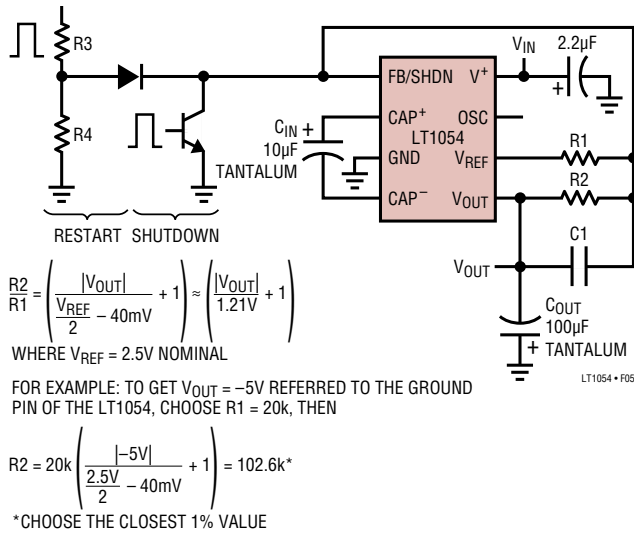

Figure 5.
**FB/SHDN (Pin 1):** Feedback/Shutdown Pin. This pin has two functions. Pulling Pin 1 below the shutdown threshold ( $\approx 0.45V$ ) puts the device into shutdown. In shutdown the reference/regulator is turned off and switching stops. The switches are set such that both  $C_{IN}$  and  $C_{OUT}$  are discharged through the output load. Quiescent current in shutdown drops to approximately  $100\mu A$  (see Typical Performance Characteristics). Any open-collector gate can be used to put the LT1054 into shutdown. For normal (unregulated) operation the device will start back up when the external gate is shut off. In LT1054 circuits that use the regulation feature, the external resistor divider can provide enough pull-down to keep the device in shutdown until the output capacitor ( $C_{OUT}$ ) has fully discharged. For most applications where the LT1054 would be run intermittently, this does not present a problem because the discharge time of the output capacitor will be short compared to the off-time of the device. In applications where the device has to start up before the output capacitor ( $C_{OUT}$ ) has fully discharged, a restart pulse must be applied to Pin 1 of the LT1054. Using the circuit of Figure 5, the restart signal can be either a pulse ( $t_p > 100\mu s$ ) or a logic high. Diode coupling the restart signal into Pin 1 will allow the output voltage to come up and regulate without overshoot. The resistor divider R3/R4 in Figure 5 should be chosen to provide a signal level at pin 1 of 0.7V to 1.1V.
The error amplifier of the LT1054 servos the drive to the PNP switch to control the voltage across the input capacitor ( $C_{IN}$ ) which in turn will determine the output voltage. Using the reference and error amplifier of the LT1054, an external resistive divider is all that is needed to set the regulated output voltage. Figure 5 shows the basic regulator configuration and the formula for calculating